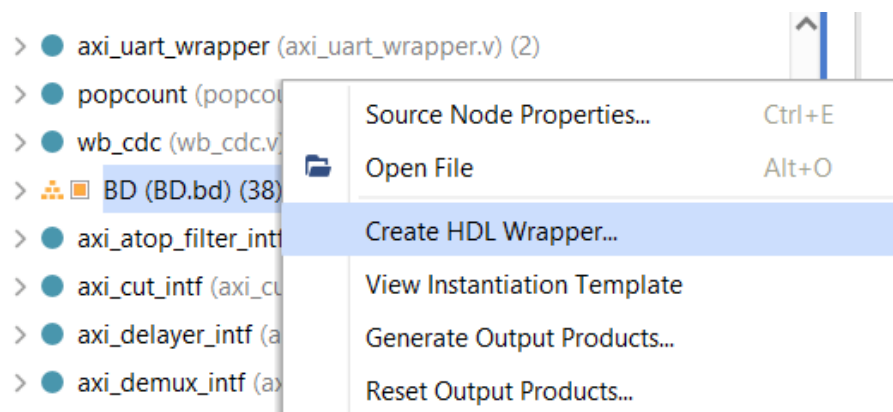

Figure 59. Create HDL Wrapper
Step 2. Now right-click on that Block Design (BD) and then select “Create HDL Wrapper” (see Figure 59).